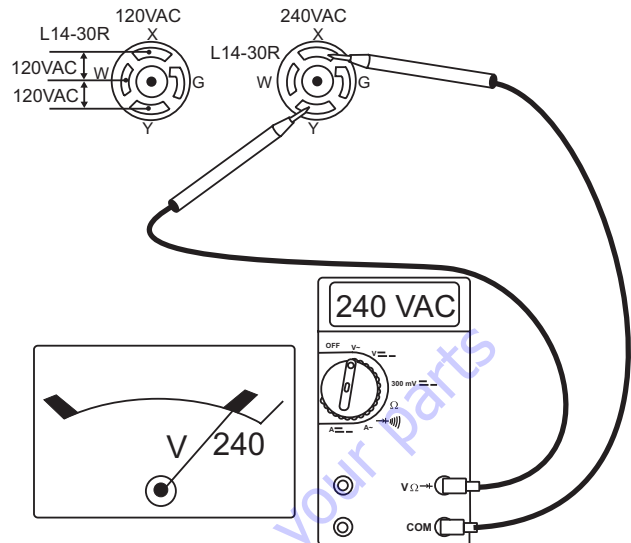

Figure 25. 120/240V L14-30R Receptacle
- Read voltmeter on front panel of generator (Figure 25) and verify that 240 VAC is displayed. Using an external voltmeter as shown in Figure 25, verify that 240 VAC is present at the 120/240V, L14-30R twist-lock receptacle.